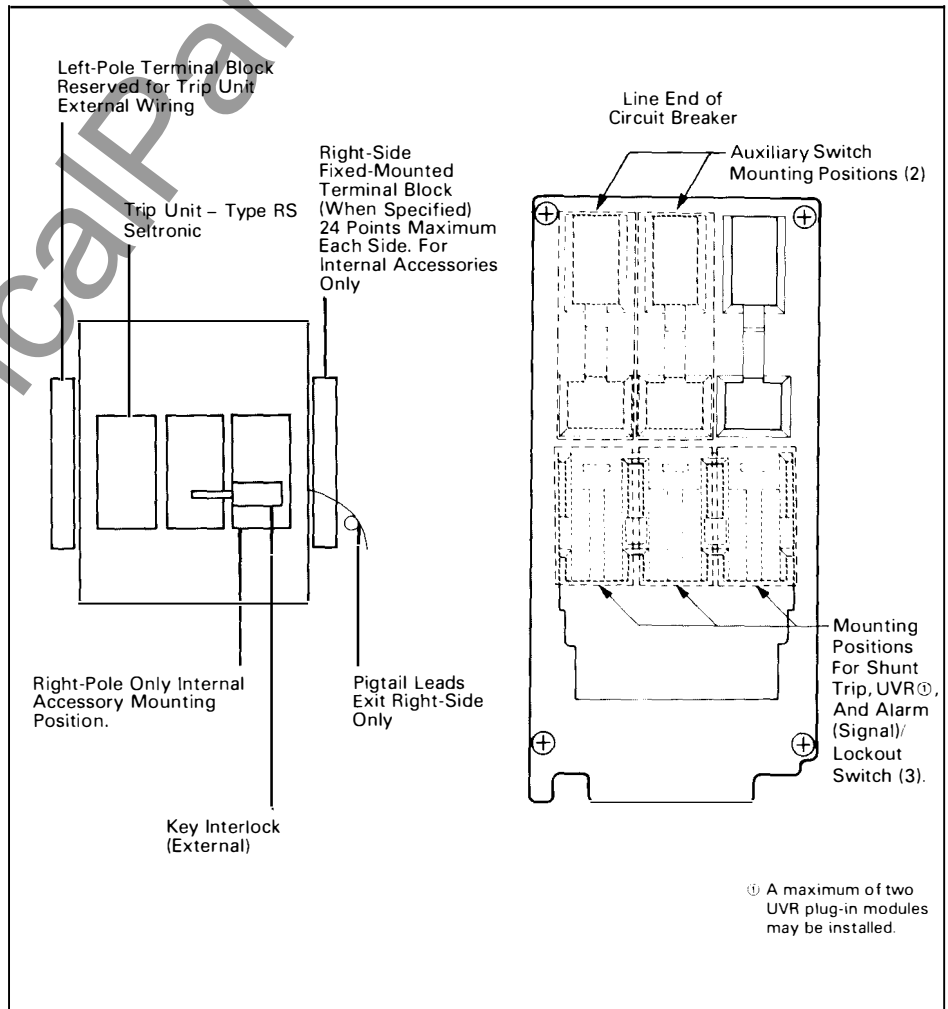

Figure 4-2. Accessory Mounting Locations
For external connections, 18 inch long pig-tail leads exit the right-side of the circuit breaker next to the accessory deck. An optional configuration includes a terminal block mounted on the right-side of the base. To identify allowable accessory installation combinations, see Figure 4-2.
Different combinations of accessories can be supplied. Figure 4-2 shows the different accessories or combinations that can be used internally with R-frame circuit breakers. All internal accessories fit into an accessory mounting deck that is positioned in the right-hand pole in the circuit breaker. The key interlock external accessory is also positioned on the cover over the right-hand pole.
- (b) When internal accessories are ordered for field installation, accessory mounting arrangements can be verified by referring to Figure 4-2.